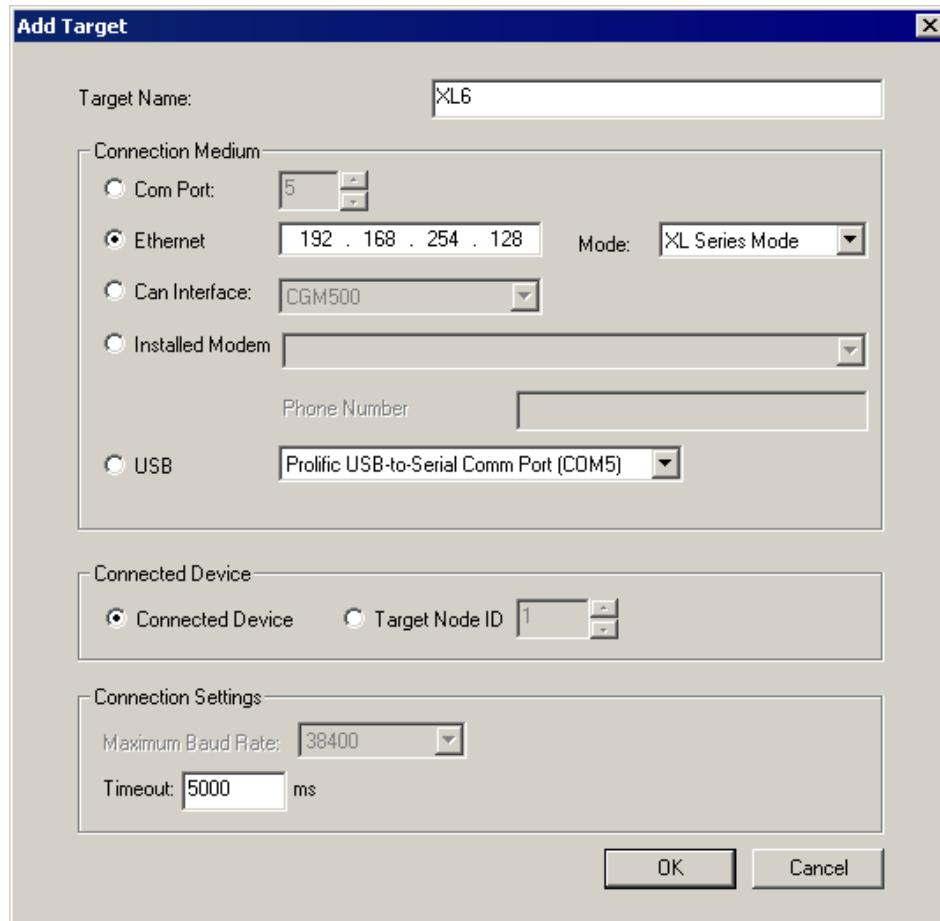

Figure 5.1 – Cscape Program Options - Communications Port Tab
2. Communication settings can be configured using **Add Target** dialog by choosing **Tools > Editor Options > Communications Port** and then click **Configure >>**. (Figure 5.1).